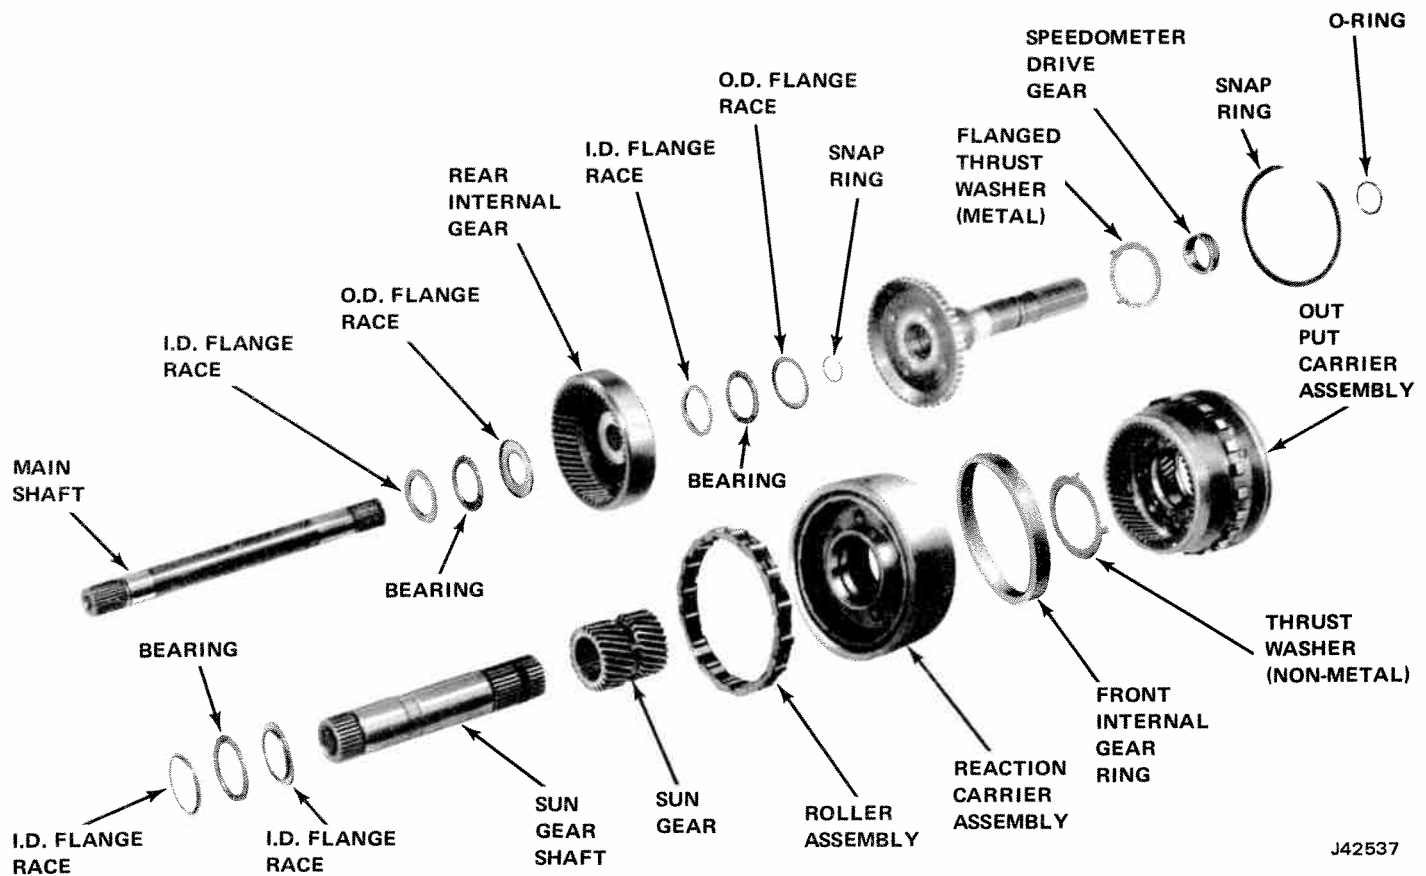

Fig. 7-107 Gear Unit Assembly
- (1) If rear internal gear has been removed from mainshaft, insert rear spline of shaft into gear, then secure gear to shaft with snap ring (fig. 7-107).
- (2) Install sun gear-to-internal gear races and thrust bearings against inner face of rear internal gear as follows retaining with petroleum jelly: place large race against internal gear with flange facing forward or